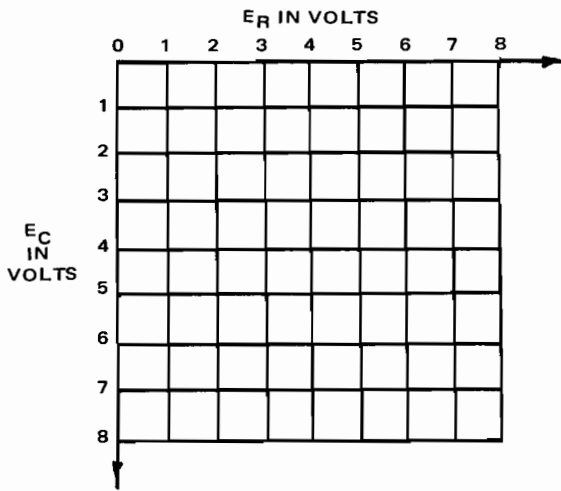

Fig. 10-5-2
4. To add values of E_c and E_R , use graph in Fig. 10-5-2. Note that zero reference of this graph starts at top left corner of graph. Compare this with $E_L - E_R$ graph in Fig. 9-6-2.
2. Using either a protractor or the formula, Phase angle = inverse cos of E_R/E_Z , determine the phase angle of the graph in Fig. 10-5-2. _____